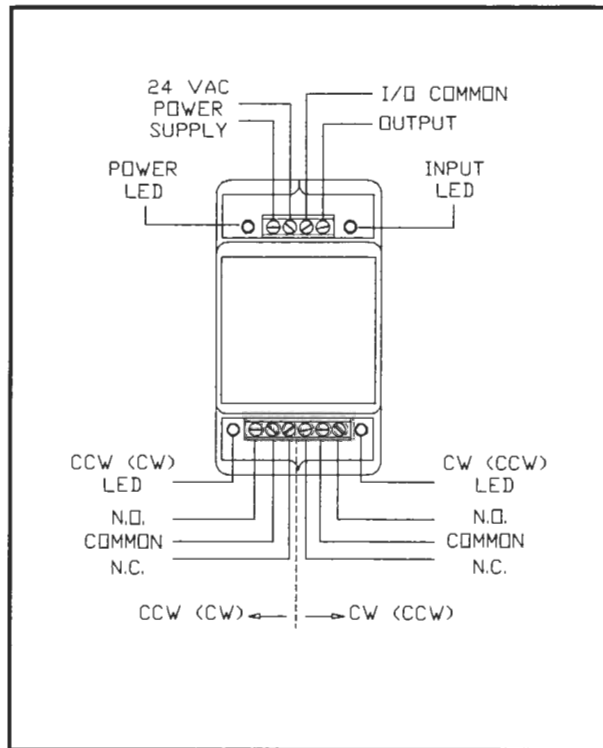

Fig. 2, Terminations
**CONNECTIONS:** 4 position terminal strip for supply and and input signals, 6 position terminal strip for relay outputs (See fig. 2).
3. There are a total of 4 LED's on the M930 (fig. 2). The LED nearest the 24 VAC supply terminal indicates power to the module. The LED located directly adjacent to the input terminals is for diagnostic purposes, and indicates the presence of a duty cycle signal. The two LED's near the relay output terminals pulse with their CW and CCW relays respectively.